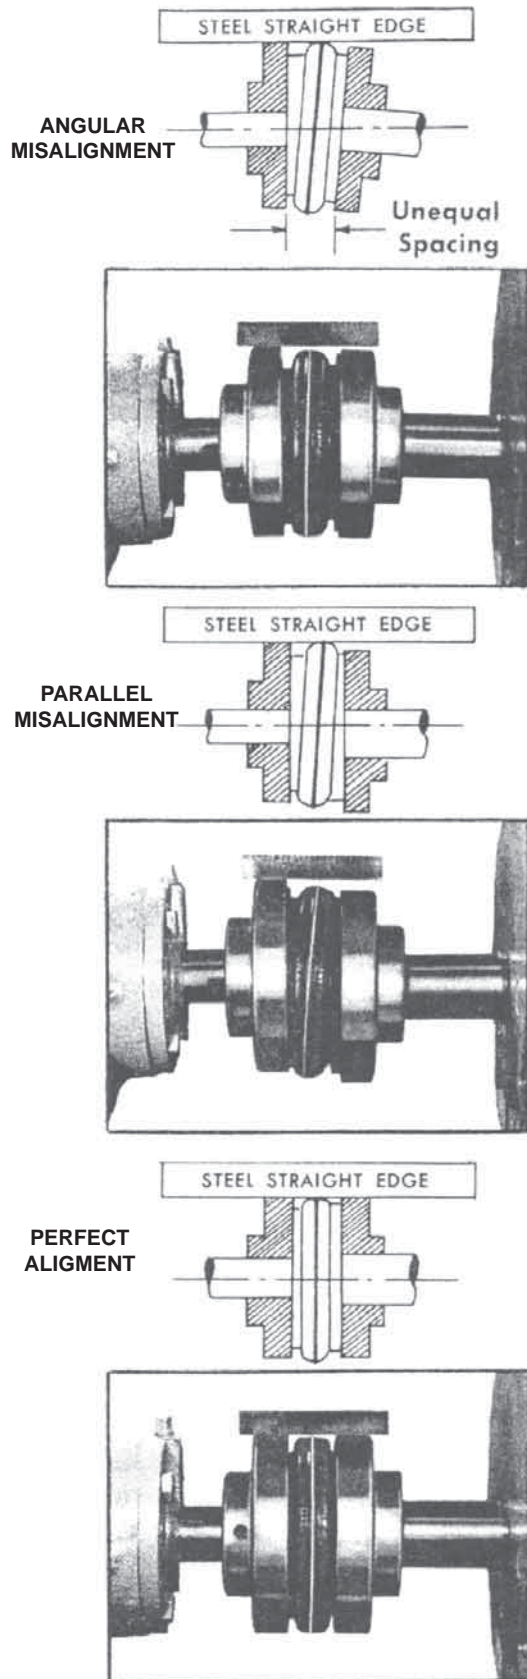

Figure 2
3. Align the pump and motor shafts at the flexible coupling. Hold a straight edge on the top of the coupling so that it extends over both halves. Straight edge should rest evenly across both rims of the coupling halves when the straight edge is placed on the top, sides and bottom with no light showing between the straight edge and rim of the coupling. Also check vertical alignment of the coupling faces with a thickness gauge. Faces must be parallel and spaced about 1/8" apart when the motor rotor is at its extreme position towards the pump. This safe guards the pump shaft being crowded endwise by the motor shaft end play. By proper adjustment of metal shims under pump or motor, both halves of the flexible coupling can be brought into alignment See Figure 2.